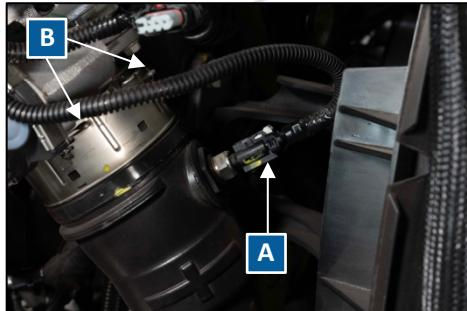

Figure 19: Charge Pipe
28. Un plug IAT (Intake Air Temp) sensor on charge pipe from intercooler (labeled as A in Figure 19).
29. Remove charge pipe from intercooler to upper intake manifold by spreading retaining clips and set to the side (labeled as B in Figure 19).